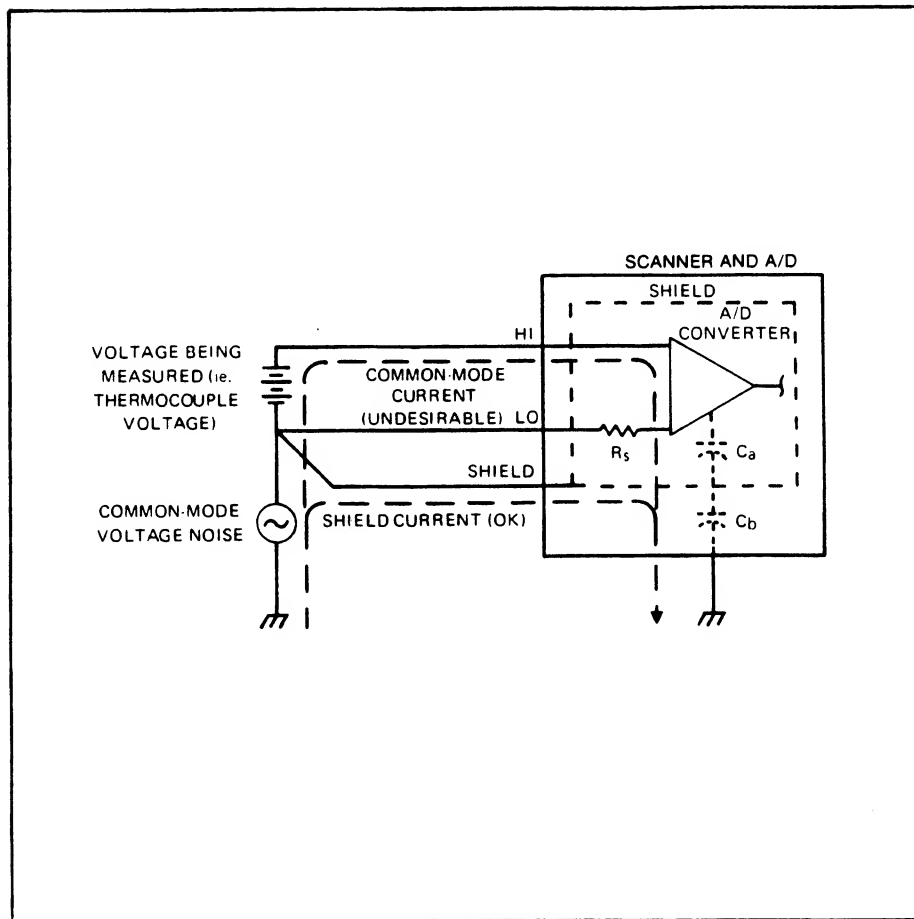

Figure 175-2. Shield Connection for Optimum Common Mode Rejection
Current resulting from a capacitive charge and discharge between the A/D Converter and the chassis can produce unstable readings. Therefore, a path for this current is utilized by connecting the SHIELD lead to the LOW lead at the measurement point. This arrangement (shown in Figure 175-2) improves common-mode noise rejection.
2. If significant common mode voltage (greater than one volt) is present, connect SHIELD to LOW by means of a third wire at the measurement point. This arrangement is shown in Figure 175-2.